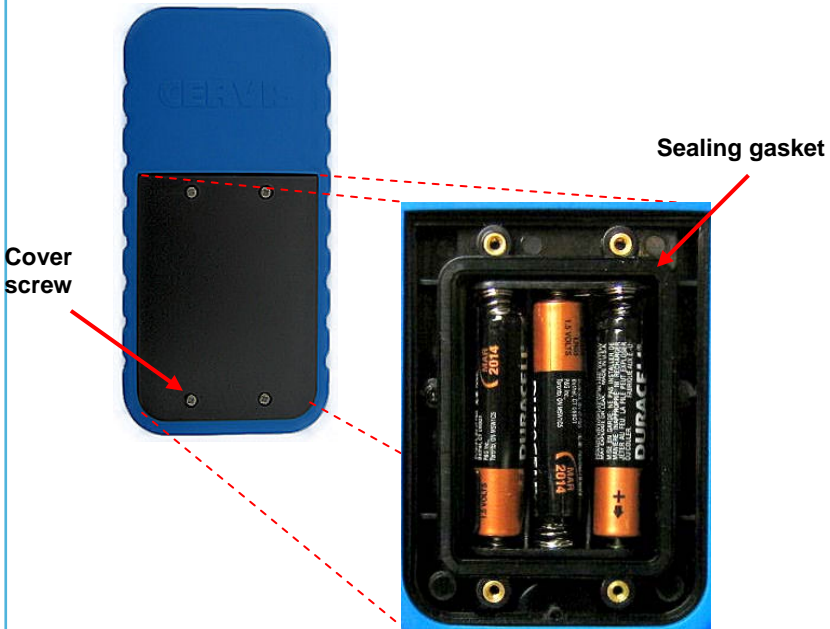

Figure 3. Handheld Battery Installation
| Figure 3. Handheld Battery Installation | 4 |
2. If installing batteries in an empty battery compartment, install three fresh size AAA batteries. Be sure to position the batteries as shown in Figure 3 below.
Be sure to position the batteries as shown in Figure 3 below.